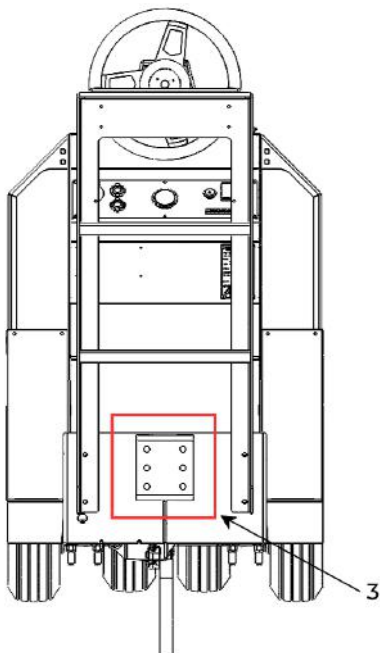

Figure 32. Hitch Mounting.
- Hitch mounting area (3) (see Figure 32).